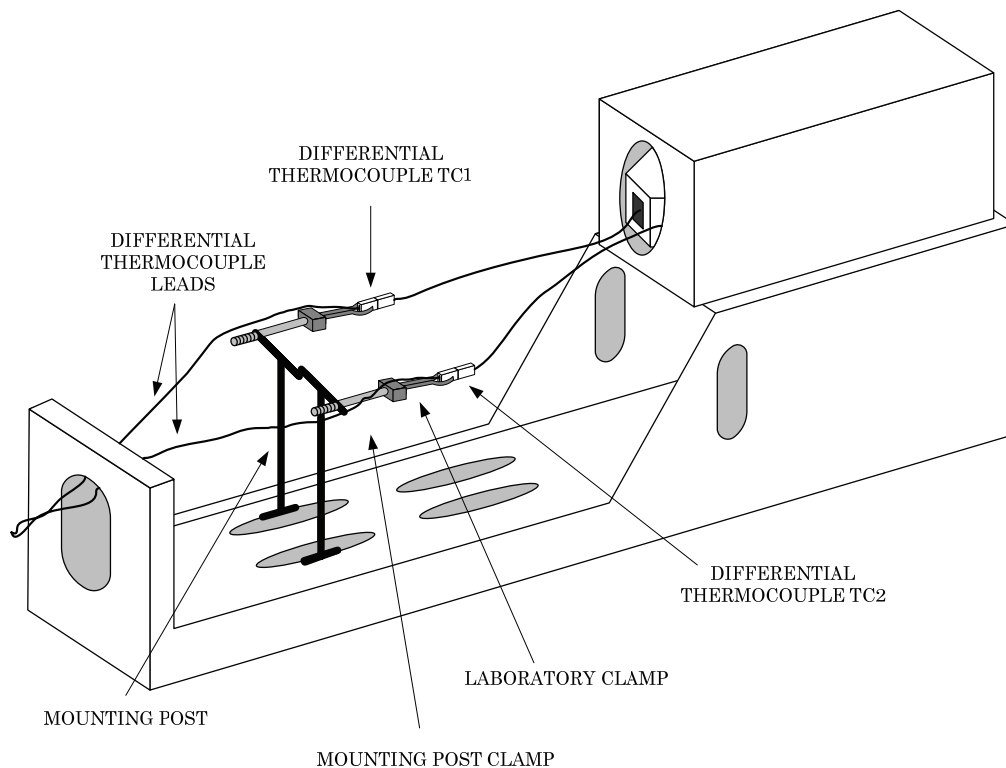
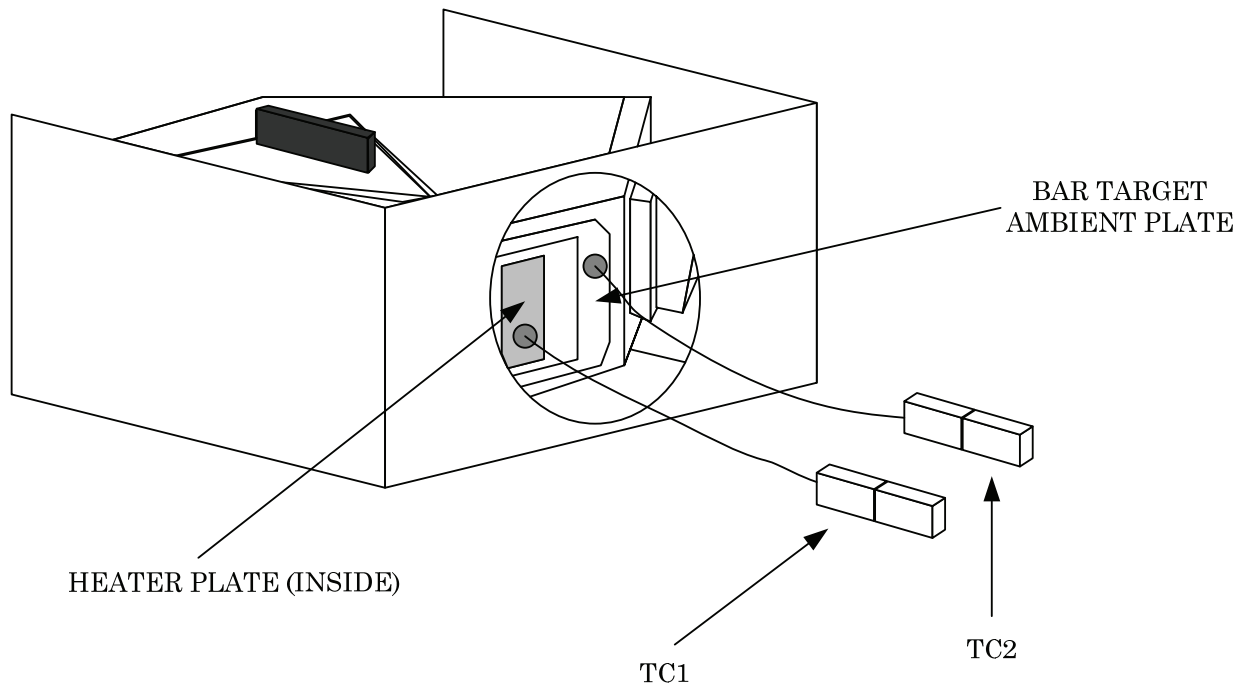

Figure 5. Equipment setup.
Figure 6. Thermocouple to heater plate setup.
b. Connect equipment as shown in figure 5 and as described in (1) through (5) below:
- (1) Install thermocouple mounting post (pair) (fig. 5) on base of **TI** (approximately center of second slot pair from exit port).
- (2) Install thermocouple harness wire to thermocouples (connectors are keyed and labeled).
- (3) Clamp differential thermocouple set (pair) in laboratory clamps and install on thermocouple mounting posts, using mounting post clamps (fig. 5).
- (4) Using the wood end of a cotton tip applicator, daub a small amount of thermal conductive paste on bottom of **HEATER PLATE** behind **BAR TARGET** (fig. 6).
(5) Place tip of thermocouple No. 1 (TC1) in thermal conductive paste against bottom of **HEATER PLATE (INSIDE) BAR TARGET AMBIENT PLATE** (fig. 6).
Avoid scratching internal edges of **BAR TARGET** (fig. 6) during application and removal of thermal conductive paste.
c. Perform steps (1) through (4) below:
- (1) Loosen mounting post clamp (fig. 5) which holds laboratory clamp (fig. 6).
- (2) Increase tension on thermocouple No. 1 (TC1) to produce a moderate bow in thermocouple wire by sliding laboratory clamp (fig. 6) forward (toward temperature controller) in mounting post clamps; then tighten mounting post clamps (fig. 5).
- (3) If necessary, physically position thermocouple TC1 on **HEATER PLATE** to the position shown in figure 6.
- (4) Daub a small amount of thermally conductive paste on exterior of **TI BAR TARGET** adjacent to placement of TC1 and place tip of thermocouple No. 2 (TC2) in the thermally conductive paste (fig. 6).
- d. Repeat technique of c (1) through (3) above for thermocouple TC2 (fig. 6).
(4) Loosen mounting post clamp (fig. 5) on thermocouple No. 2 (TC2) and slide laboratory clamp (fig. 6) back (away from TI) in mounting post clamp until thermocouple is outside TI, then tighten mounting post clamp (fig. 5).
(5) Use cotton-tip applicator soaked in paste removal solvent to remove thermally conductive paste from exterior surface of **BAR TARGET AMBIENT PLATE** (fig. 6), then remove solvent residue using a dry cotton-tip applicator.
(10) Loosen holding clamp (fig. 5) slightly.
(11) Increase pressure on thermocouple No. 2 to produce a slight bow in thermocouple wire by sliding laboratory clamp forward (toward TI) in holding clamp, then tighten holding clamp (fig. 5).
(12) Repeat technique of steps 9 a (1) through 9 a (3) (e) and record values on “MRT Target Temperature Worksheet”. Temperature error will be between -0.45 and $+0.45$ °C; if not, perform b (2) below and repeat this step.
(12) Repeat technique of steps **9 a** (1) through **9 a** (3) (e) and record values on "MRT Target Temperature Worksheet". Temperature error will be between -0.45 and $+0.45$ °C; if not, perform **b** (2) below and repeat this step.
(13) Deenergize and disconnect all leads.
(14) Perform steps in paragraph **10** for final procedure.